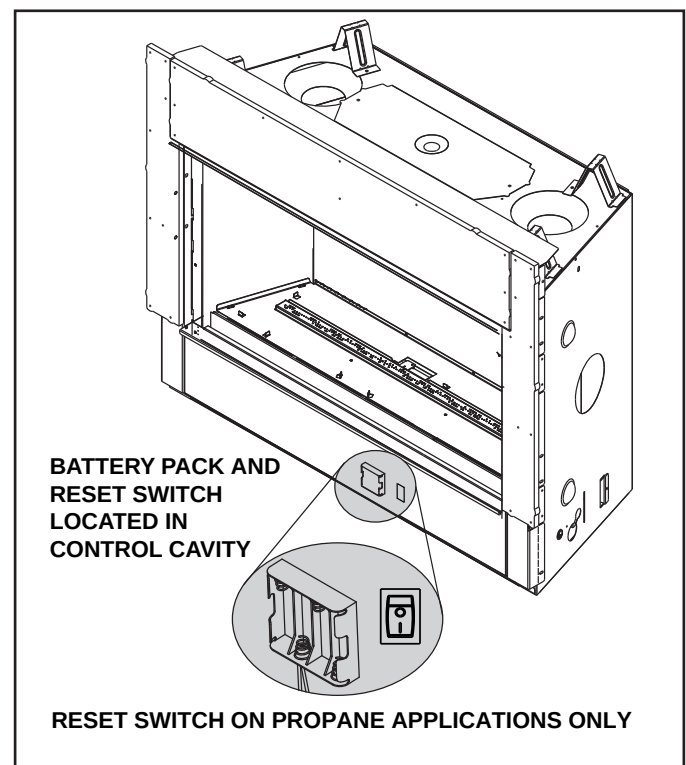

Figure 3.3 Battery Pack Location/Control Cavity
The IntelliFire Touch® intermittent pilot ignition system comes with a battery backup system that enables the system to operate in a power outage. The system offers seamless transition from household AC power to battery backup. A factory-installed battery pack is located in the control cavity of the appliance. See Figure 3.3. Battery longevity and performance will be affected by long term exposure to the service temperatures of this appliance.
1. The battery pack is located in the control cavity of the appliance. To access the control cavity of the appliance Remove the decorative barrier front and glass assembly. See Section 4 for instructions on glass assembly removal. See Figure 3.3 for location of battery pack.
2. Locate the battery pack and remove it from the control cavity. It is held in place by hook and loop fastener. Insert four AA cell batteries. Battery polarity must be correct or module damage will occur. See Figure 3.3. A complete wiring diagram is included in the Electrical section of the appliance Installation Manual.